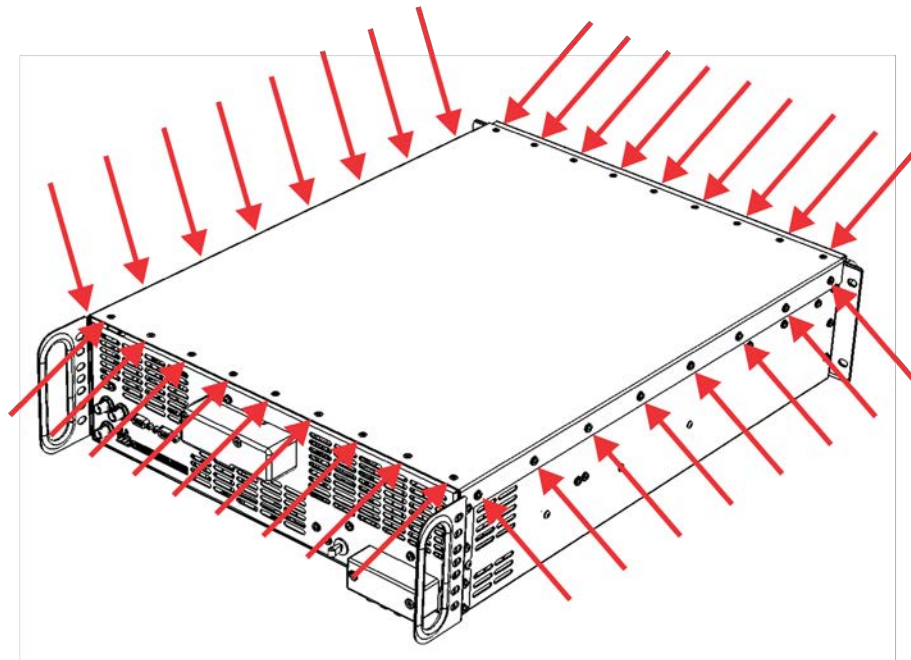

Figure 5.4 – Removing the amplifier top cover
2. Use the #2 Phillips screwdriver to remove the 34 screws securing the top cover, as shown in **Figure 5.4**.